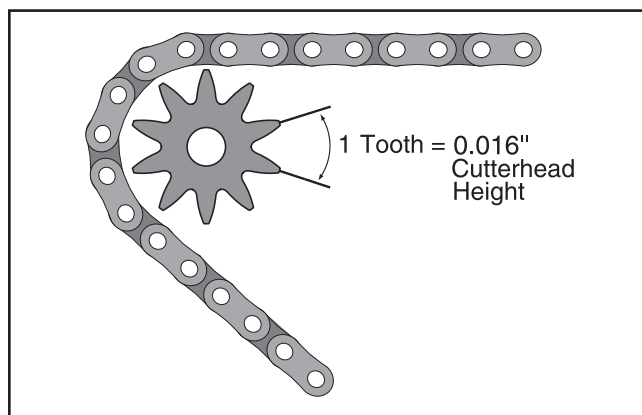

Figure 68. Sprocket ratio.
3. Moving the sprockets clockwise lowers the table and moving them counterclockwise raises the table. Each tooth on the corner sprockets equals 0.016" of vertical movement when the cogs are turned (See illustration in **Figure 68**). Make sure, as you adjust each sprocket, that you count the number of teeth that pass a fixed point.